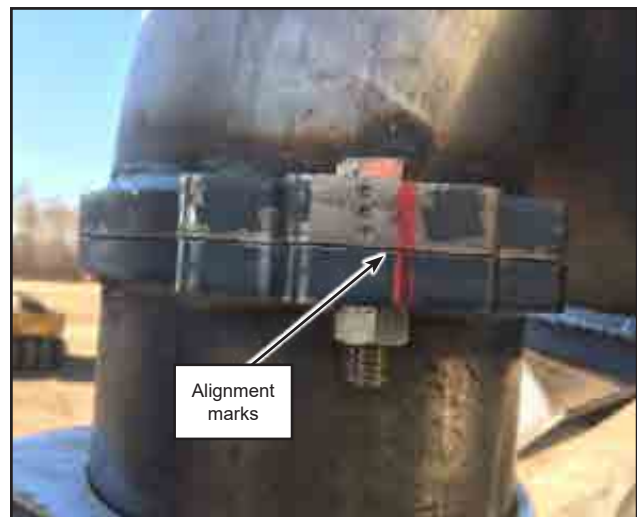

Figure 1.20 - Bolted Side Flange Scribe Marks
- f. Check the alignment marks made in step 3 and adjust the elbow as needed to get the orientation correct. Refer to Figures 1.20 & 1.21.